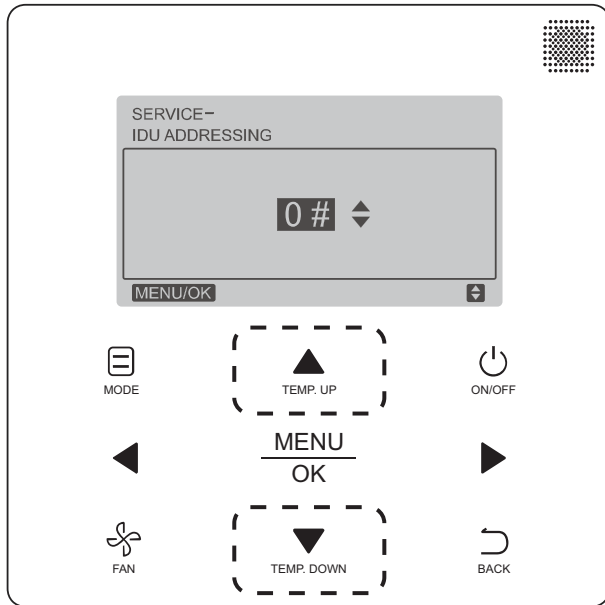

Fig. 19 —Programmable Controller Setting IDU Address
3. Press **TEMP. UP** or **TEMP. DOWN** to choose the address you want to set as shown in Fig. 19. Press **MENU/OK** to send this address to the IDU.